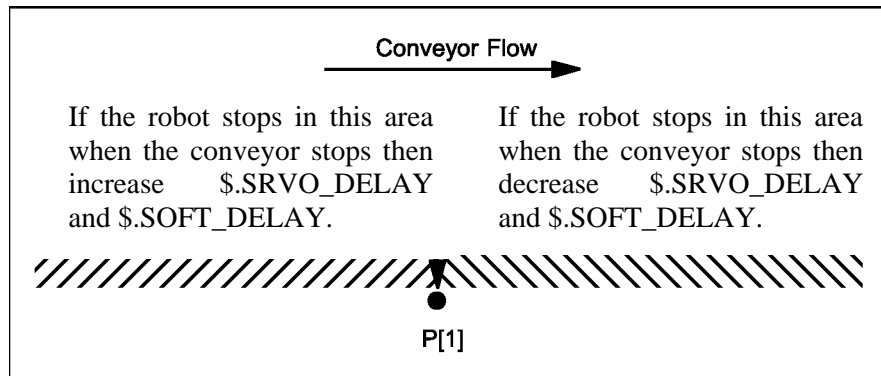

Fig. 5.4.2 Modifying \$LNCFG\_GRP.\$SRVO\_DELAY and \$LNCFG\_GRP.\$SOFT\_DELAY
2. Verify that the robot is lined up at the correct position while the conveyor is moving and the program is running. If the robot is not lined up perfectly with P [1] then modify \$LNCFG\_GRP.\$SRVO\_DELAY and \$LNCFG\_GRP.\$SOFT\_DELAY as shown in Fig. 5.4.2 .